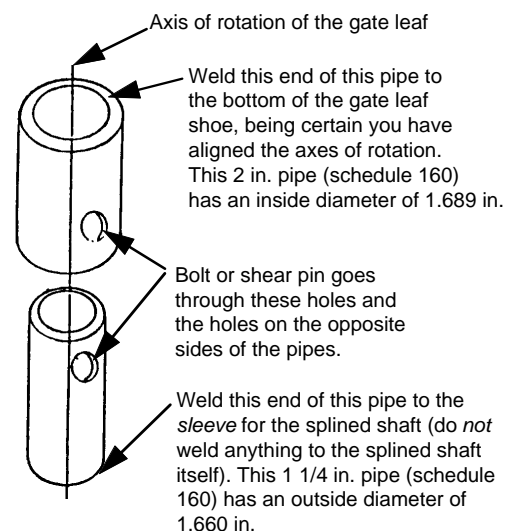

Figure 8. A sample shear-pin assembly.
- Construct a shear-pin assembly to accommodate the extra vertical distance. The assembly is welded to the bottom of the gate or gate leaf shoe on one end and to the sleeve for the splined collar on the other end (see Figures 8 and 9). Such an assembly protects the pinion and splined shaft in the event something hits the gate with great force.